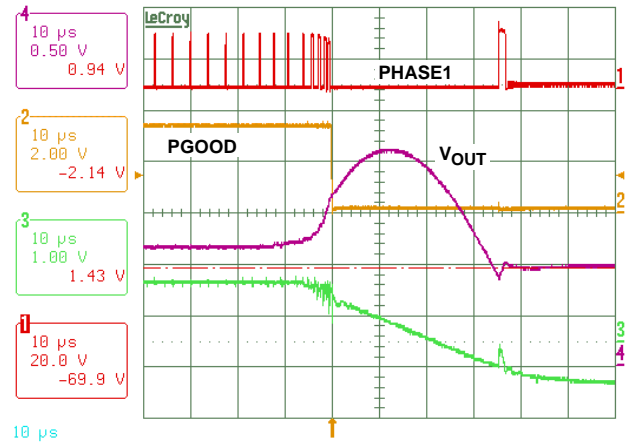

FIGURE 25. 1.7V OVERVOLTAGE PROTECTION SHOWS OUTPUT VOLTAGE PULLED LOW TO 0.9V AND PWM THREE-STATE
2. The second level of overvoltage protection behaves differently (see Figure 25). If the output exceeds 1.7V, an OV fault is immediately declared, PGOOD is latched low and the low-side MOSFETs are turned on. The low-side MOSFETs will remain on until the output voltage is pulled down below about 0.85V, at which time all MOSFETs are turned off. If the output again rises above 1.7V, the protection process is repeated. This offers the maximum amount of protection against a shorted high-side MOSFET while preventing output ringing below ground. The 1.7V OV is not reset with VR_ON, but requires that VDD be lowered to reset. The 1.7V OV detector is active at all times that the controller is enabled including after one of the other faults occurs so that the processor is protected against high-side MOSFET leakage while the MOSFETs are commanded off.